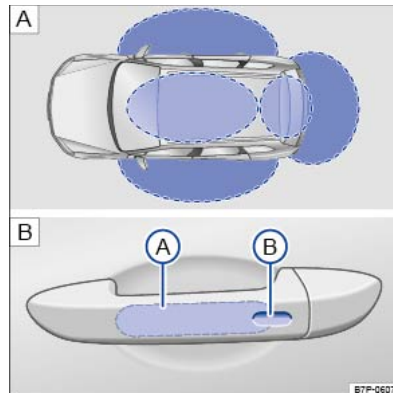

Fig. 66 Keyless Access locking and starting system: operating range. Sensor surfaces of the central locking system.
The keyless locking and starting system Keyless Access enables the vehicle to be locked and unlocked without active use of the key. For this purpose, a valid vehicle key must be within the vehicle's range ⇒ Fig. 66 **A**. The vehicle or boot lid is unlocked or locked by touching the sensor surfaces on the front door handles or pressing the button in the boot lid ⇒ *Boot lid* ⇒ **1**.
- Touch the sensor surface ⇒ Fig. 66  on the inside of the driver or front passenger door handle.
- Touch the sensor ⇒ Fig. 66  on the outside of the driver or front passenger door handle *once*.
If the vehicle is locked and a valid vehicle key is located within the operating range ⇒ Fig. 66  of the boot lid, the boot lid automatically unlocks when you open it with the handle button.